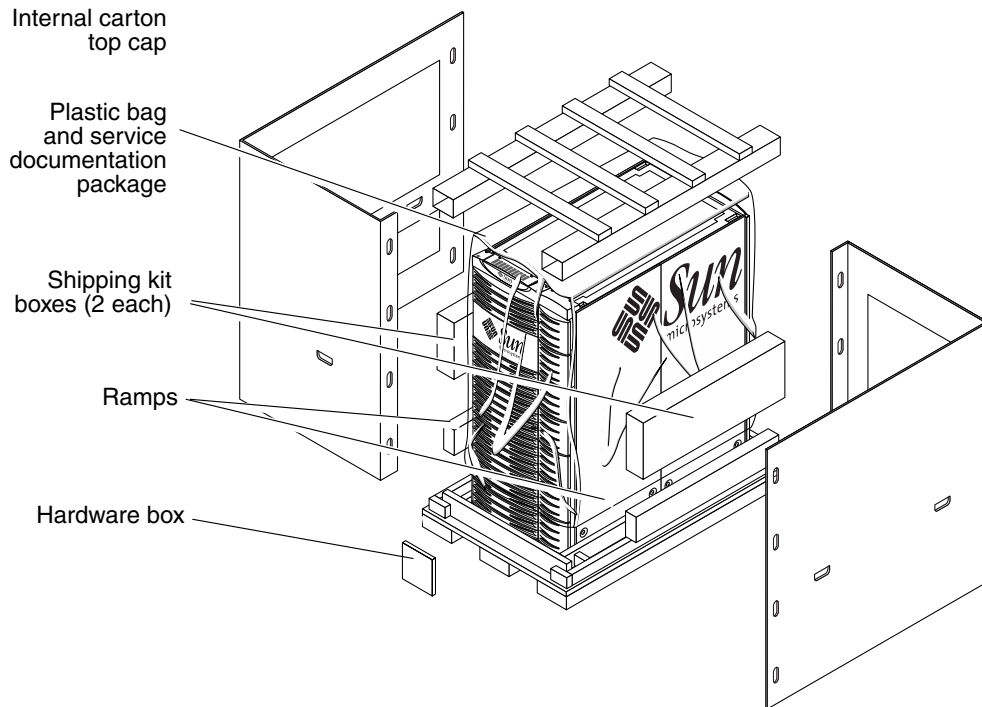

FIGURE 4-5 Final Packaging and Outside Carton Packaging Assemblies
7. Assemble the outside carton (FIGURE 4-5).